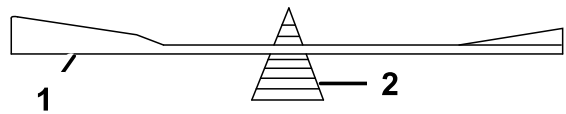

Figure 52
- Check the balance of the blade by putting it on a blade balancer (Figure 52).